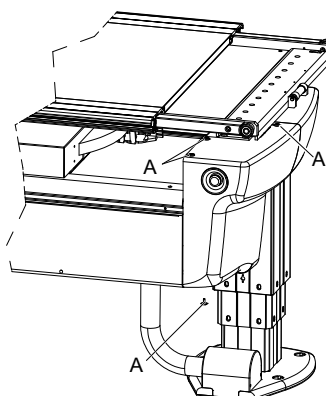

Fig. 4-157 Removing left back cover
- b Remove the left back cover by removing the bolts (A) shown in **Fig. 4-157**. Observe the placement of the cable chain before removing the cover.
- d Tighten the bolts (B), use Loctite 243, see **Fig. 4-157**.